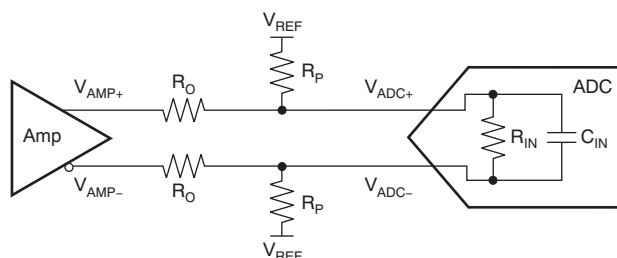

Figure 70. Resistor Network to DC Level-Shift Common-Mode Voltage
0.95 V, respectively. As shown in Figure 70, a resistor network can be used to perform a common-mode level shift. This resistor network consists of the amplifier series output resistors and pull-up or pull-down resistors to a reference voltage. This resistor network introduces signal attenuation that may prevent the use of the full-scale input range of the ADC. ADCs with an input common-mode closer to the typical 2.5-V LMH5401 output common-mode are easier to dc-couple, and require little or no level shifting.
For common-mode analysis of the circuit in Figure 70, assume that $V_{AMP\pm} = V_{CM}$ and $V_{ADC\pm} = V_{CM}$ (the specification for the ADC input common-mode voltage). V_{REF} is chosen to be a voltage within the system higher than V_{CM} (such as the ADC or amplifier analog supply) or ground, depending on whether the voltage must be pulled up or down, respectively; R_O is chosen to be a reasonable value, such as 24.9 Ω . With these known values, R_P can be found by using Equation 15: